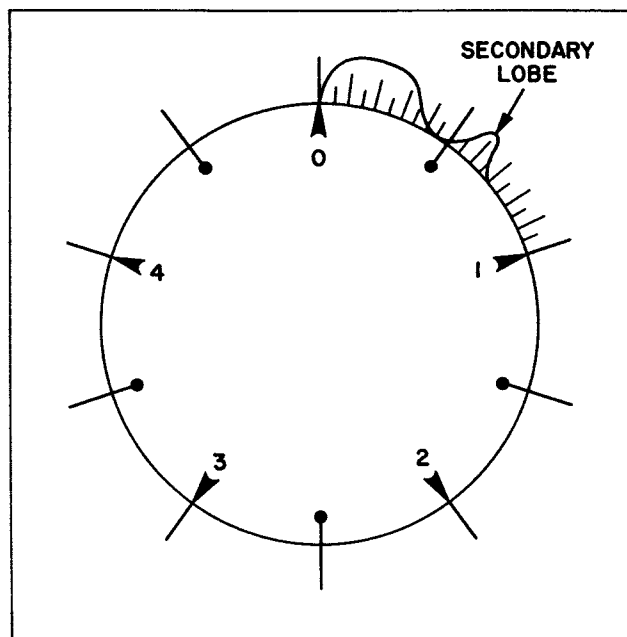

Figure 6-8. Indicator Showing Secondary Lobe
e. The second peak must not exceed 28 percent of the first peak. This requirement is necessary in order that a secondary form of UHF oscillation in tube V114 be suppressed. The second, or false transmission may be detected, if present, by rotating the REC. GAIN control to maximum sensitivity position and inspecting the trace on the cathode-ray tube for a secondary lobe at approximately 600 feet clockwise from the zero lobe on the scale. (See figure 6-8 for example of secondary lobe.) Make the check with the correct antenna load by attaching Test Set TS-10C/APN or Test Set TS-23/APN.